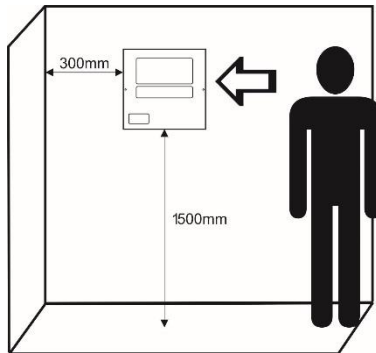

Figure 2
- The panel must be installed in a clean dry place and must not be subject to impacts or vibrations (Figure 2). It must be situated far away from heating appliances. The temperature must be -5°C to $+40^{\circ}\text{C}$. The panel is not waterproof!